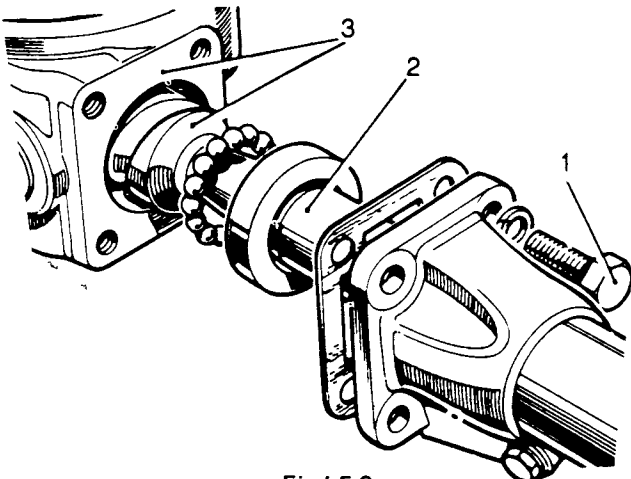

Fig L5.2
(4) Refer to Fig L5.2. Hold the outer column in a vice and remove the fixings (1) securing the steering box.
(5) Using a mallet, tap the inner column (2) at the steering wheel end to partially remove the box.
(6) Withdraw the box and inner column (3) complete. Take care not to lose any of the steel balls from the steering box bearings.